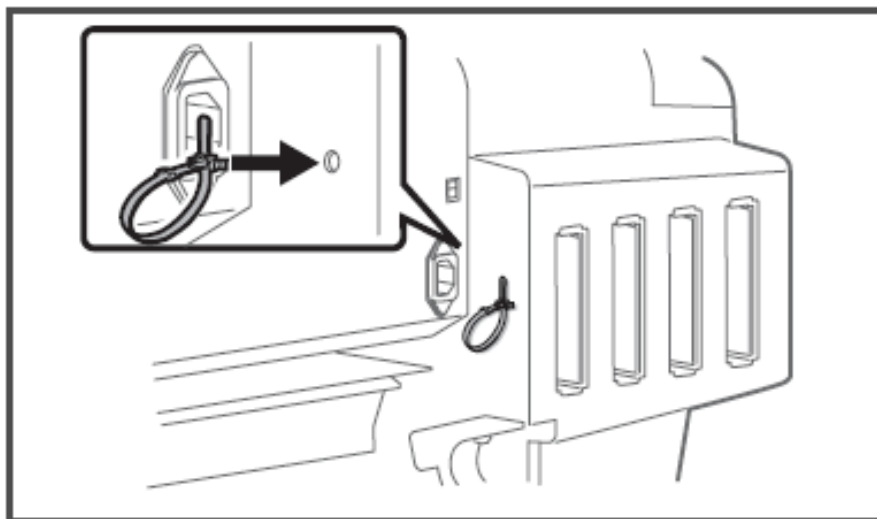

Figure 8
10. Install one of the accessory tying bands to the position shown below. This tying band is for fastening the power cable so that it will not interfere with the roll media. To release the tying band, simply press its lever. See Figure 8.